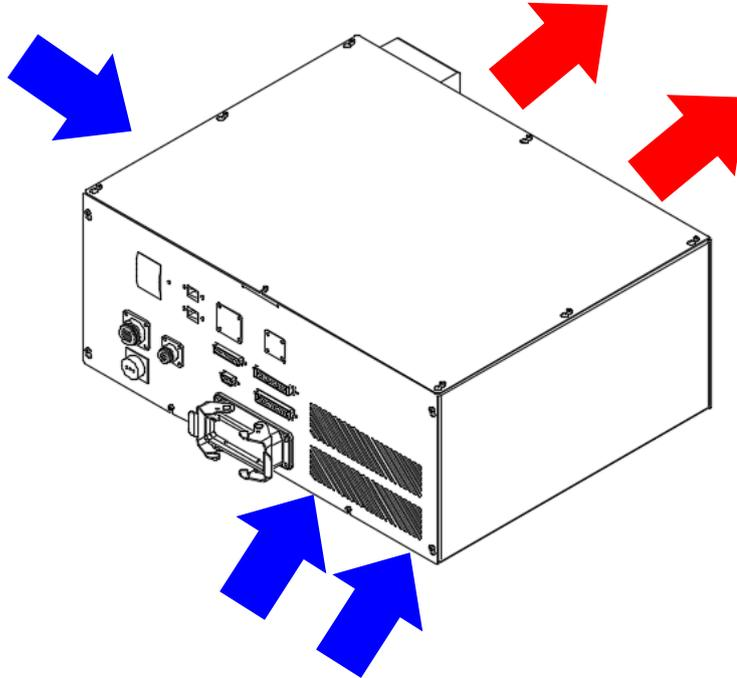

Figure 8.2 Controller cooling
1. The controller uses forced fan cooling, so sufficient space must be left in the front, back, and left sides of the controller or else it will cause malfunctions. Figure 8.2 shows the cooling illustration of the controller.